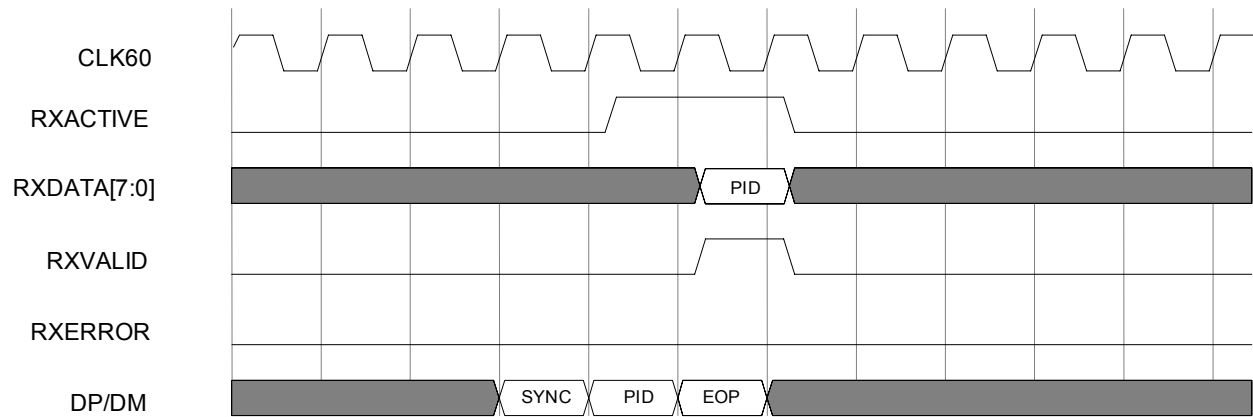
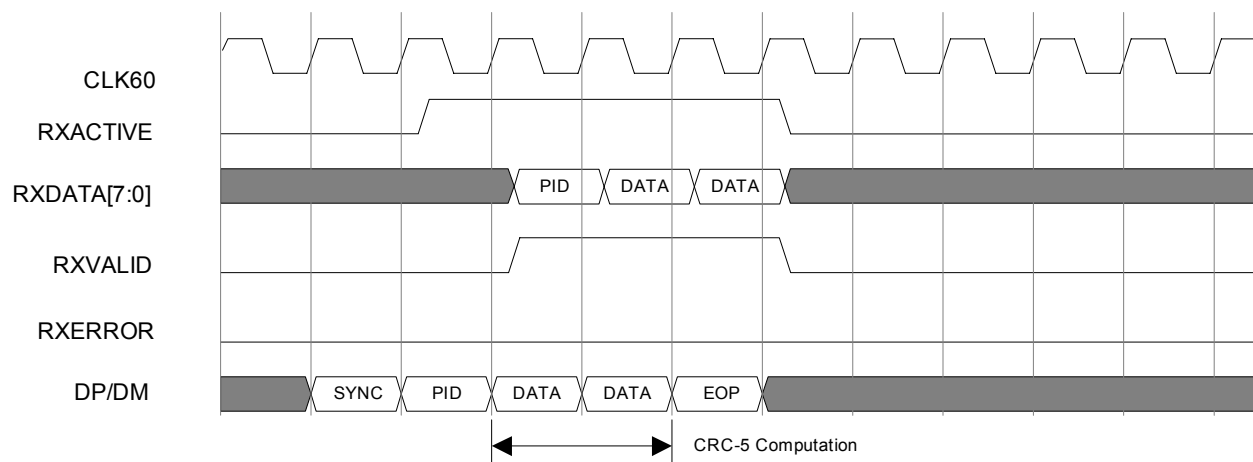
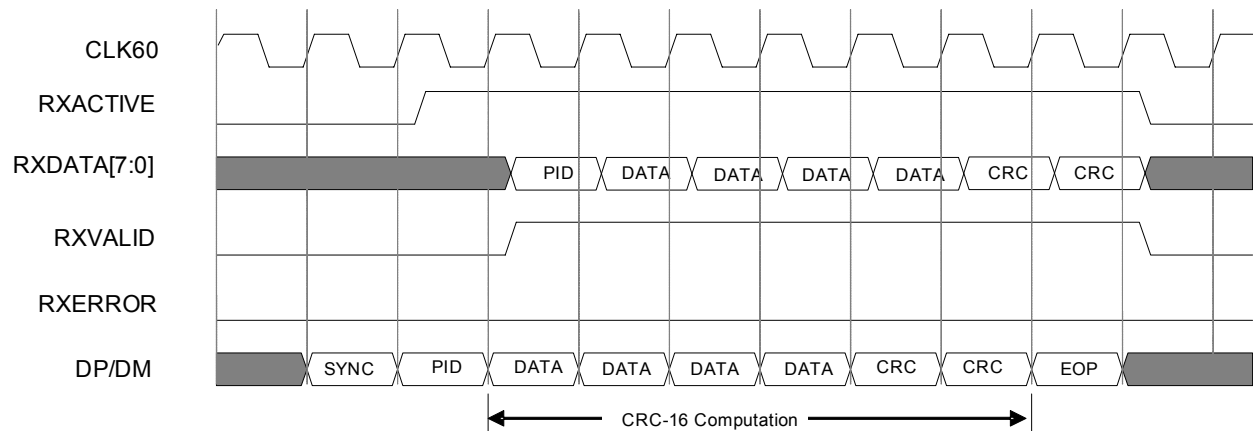

Figure 7.10 - Receive Timing for Data (with CRC-16 in 8-bit mode)
Figure 7.11 - Receive Timing for Setup Packet (8-bit mode)
Figure 7.12 - Receive Timing for Handshake Packet (8-bit mode)
- Figure 7.10 shows the timing relationship between the received data (DP/DM), RXVALID, RXACTIVE, RXERROR and RXDATA signals.
- Figure 7.10, Figure 7.11 and Figure 7.12 are timing examples of a HS/FS Macrocell when it is in HS mode. When a HS/FS Macrocell is in FS Mode (8-bit mode) there are approximately 40 CLK60 cycles every byte time. The Receive State Machine assumes that the SIE captures the data on the RXDATA bus if RXACTIVE and RXVALID are asserted. In FS mode, RXVALID will only be asserted for one CLK60 per byte time.
- Figure 7.10, Figure 7.11 and Figure 7.12 the SYNC pattern on DP/DM is shown as one byte long. The SYNC pattern received by a device can vary in length. These figures assume that all but the last 12 bits have been consumed by the hubs between the device and the host controller.